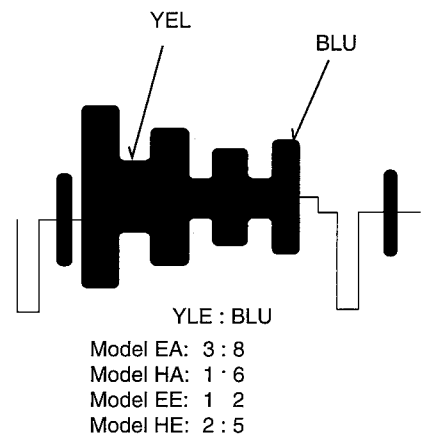

Fig. 2-1
(2) Matrix Adjustment (Fig. 2-1)